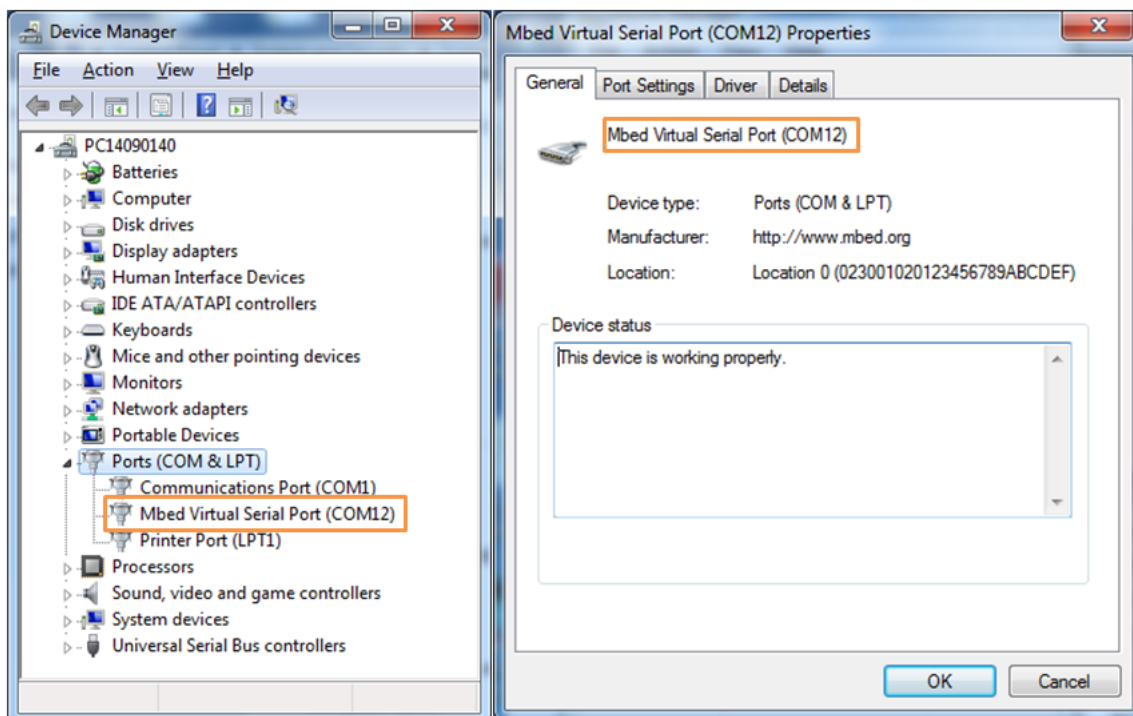

Figure 2. Installing the UART driver
- 4) In **Device Manager**, navigate to **Ports (COM & LPT)** and locate **Mbed Virtual Serial Port (COMx)**, as shown in Figure 2.